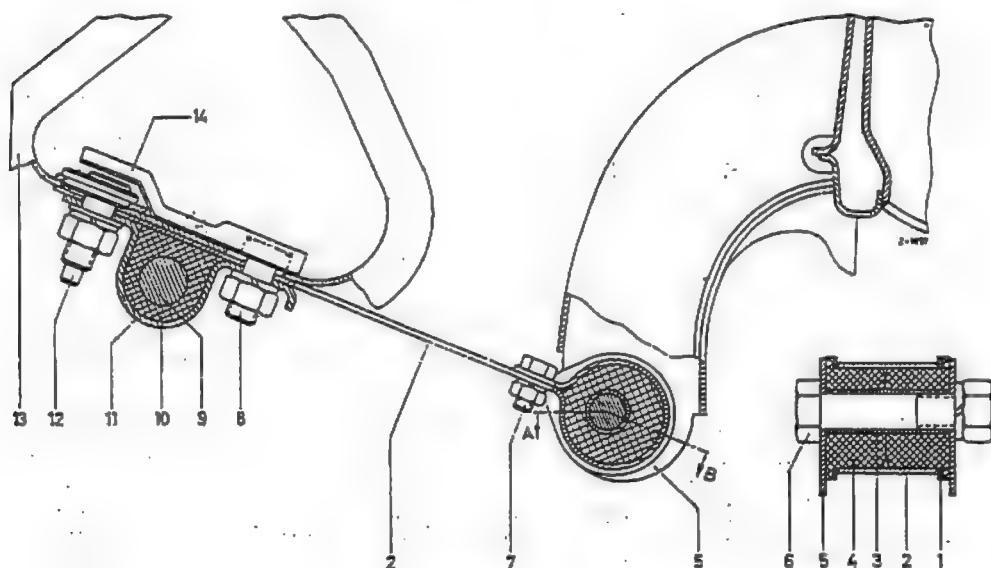

Fig. 33-1/19
22. Screw the hexagon screw (5) for the front axle suspension on the chassis base panel at the left and at the right into the front axle support and tighten with the prescribed torque (see Job No. 33-0).
23. Fit the flat springs for the front axle longitudinal support into the front axle support but do not tighten the hexagon nuts yet (Fig. 33-1/19).